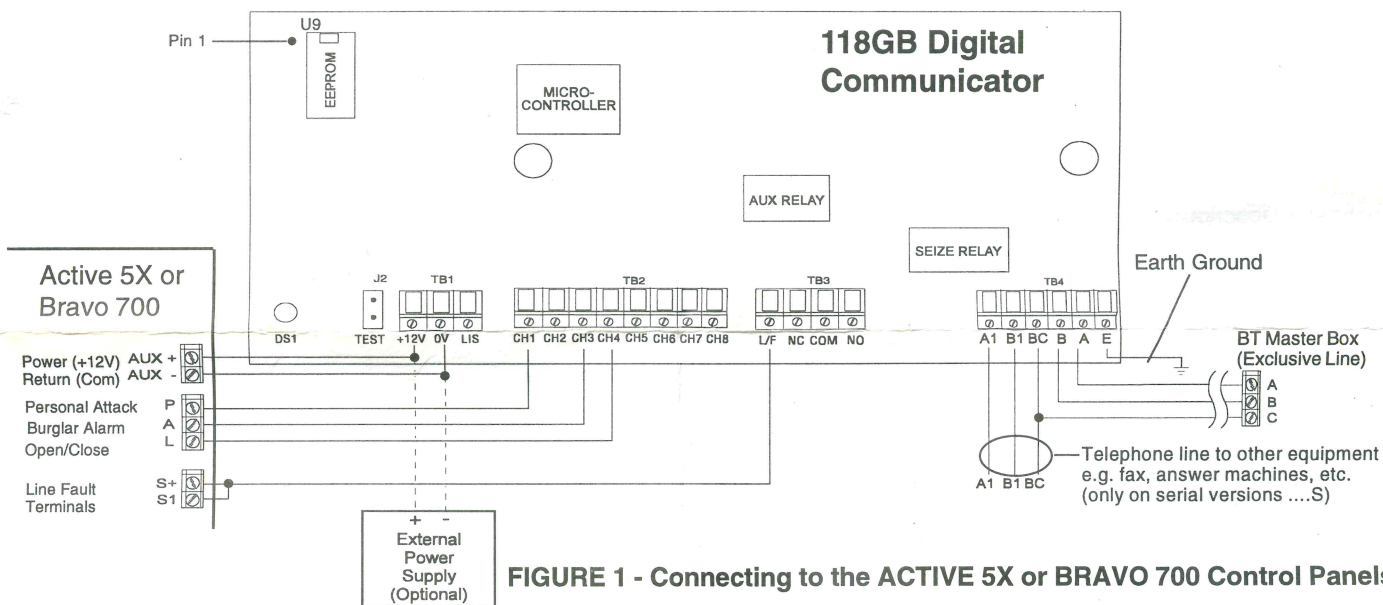

FIGURE 1 - Connecting to the ACTIVE 5X or BRAVO 700 Control Panels
4. Replace the EEPROM in the socket, ensuring proper alignment of pin 1. See Figure 1 below.
Note: If the power supply for the 118GB(S)/114GB(S) is different than the control panel, you must connect the negative terminals of both power supplies together. (See Figure 1.) If the negative (return) terminals of the control panel and the 118GB(S)/114GB(S) are not connected (at the same potential), the dialer may not trigger on alarms.
7. Connect the line fault terminal (L/F on TB3) to the Line Fault input terminals (S+ and S1) on the C&K Securitech Active 5x and Bravo 700 control panels. (See Figure 1.)
9. An Auxiliary Form C relay (K1) is available on the 114GB/118GB Digital Communicator. Connect the output terminals, normally open (NO), common (COM) and normally closed (NC) on TB3 as required. Refer to the 118GBP Programming Manual for programming details.